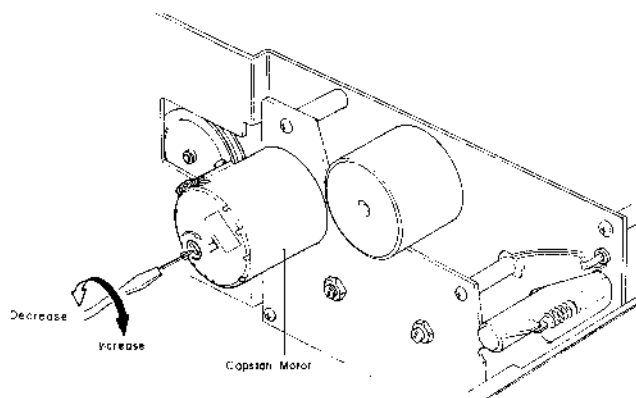

Fig. 4.3
- (1) Remove the Top Cover.
- (2) Connect a Frequency Counter to the Output Jack.
- (3) Load a 3 kHz Speed Wow/Flutter Tape (DA09006A) and play it back.
- (4) Referring to Fig. 4.3, adjust the Tape Speed Adjustment Volume (VR501) incorporated in the Capstan Motor to obtain 3,000 Hz on the Frequency counter.